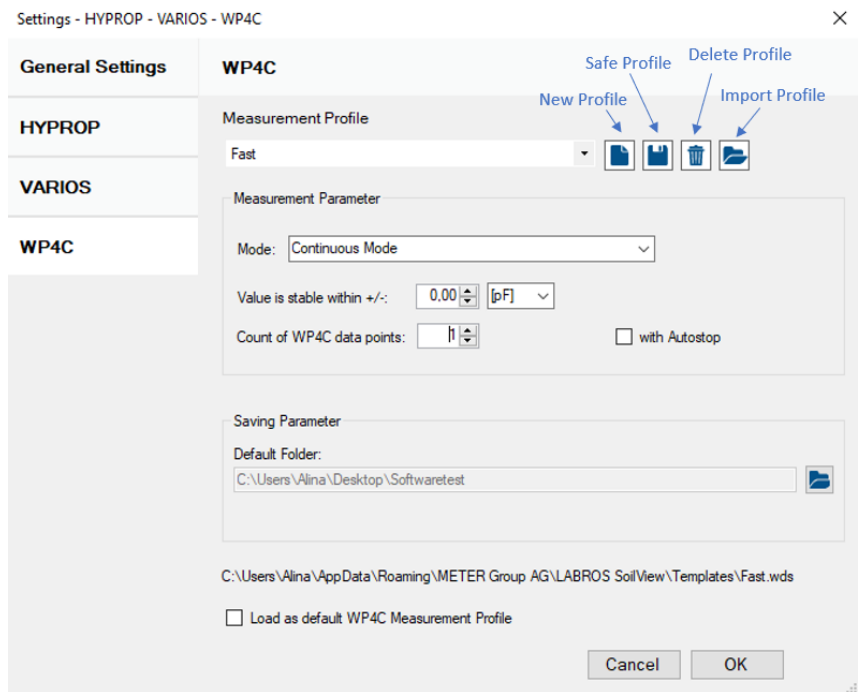

Figure 3 Create Template
To create an owner profile use the four buttons described in **Figure 3**. As a measurement parameter, the **Measurement** mode is set using the drop-down menu. Using **Continuous** mode, the count of WP4C data points may be selected as well as the tolerance. If the count of measurement cycle is e.g. set to three and the tolerance is set to 0.2 pF, the software verifies if the last three recorded data points are within the tolerance of +/- 0.2 pF. Select the **Autostop** checkbox to stop the measurements automatically.
3. Select one of the default profiles depending on the required measurement mode, or create an owner profile in the Settings menu (Figure 3). For more information about measurement modes, refer to the WP4C User Manual.